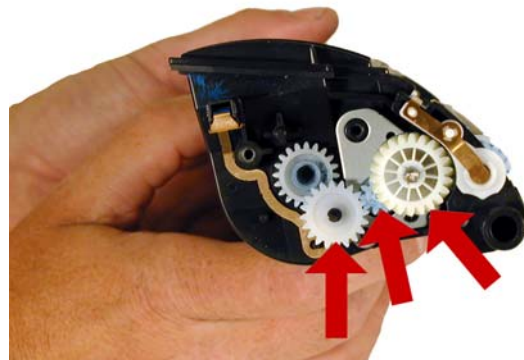

Figure 7
4) Remove the larger drive gear and the two smaller gears next to it. Leave the mixing blade gear in place. See **Figure 7**